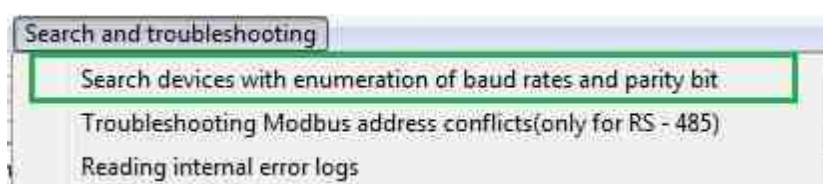

Fig. 4.2 Option "Search devices with enumeration of baud rates and parity bit"
In the table of connected devices, select the interface converter to which digital sensors with undefined parameters "Baud rate" and "Parity bit" are connected (Fig. 4.2).
1. In the table of connected devices, select the interface converter to which the digital sensors are connected (Fig.4.2).